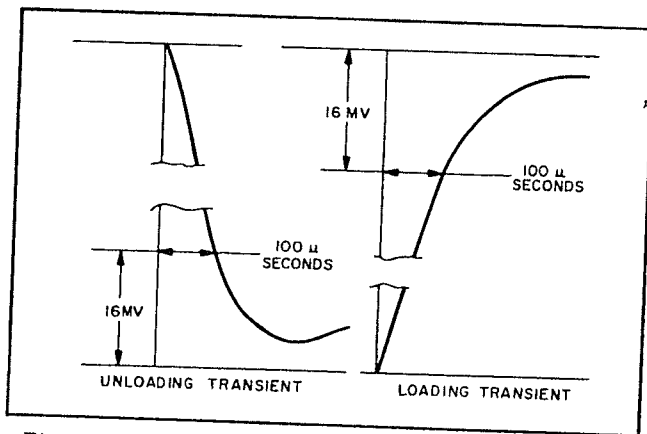

Figure 5-8. Transient Recovery Time Waveforms
j. Starting from the major graticule division representative of time zero, count to the right 100  $\mu$ sec and vertically 16mV. Recovery should be within these tolerances as illustrated in Figure 5-8.